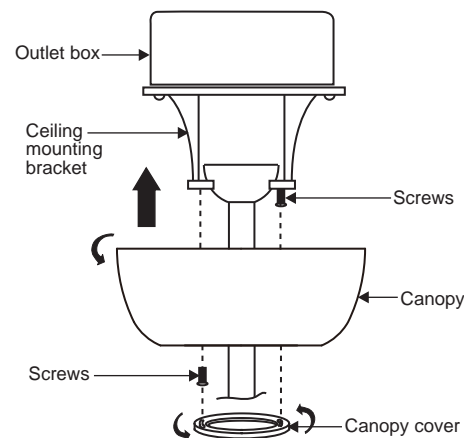

Fig. 14
Step 2. Slide the canopy up to the mounting bracket and place one of the key hole slots over the mounting screw on the mounting bracket. Rotate the canopy until the screw head locks in place at the narrow section of the key hole. See figure 14.
**NOTE:** Adjust the canopy screws as necessary until the canopy and canopy cover are snug. (Fig. 14)